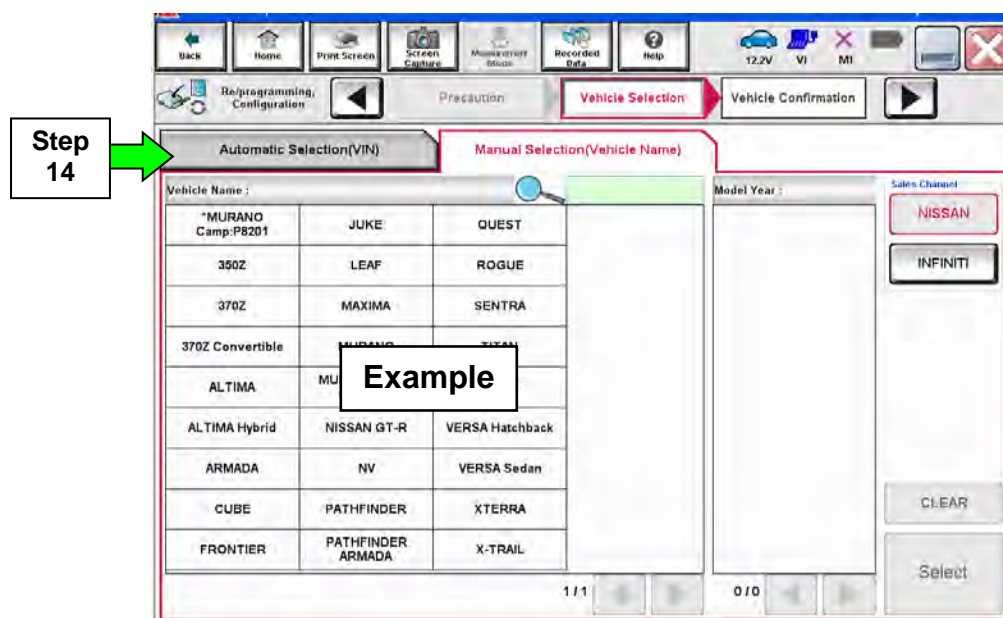

Figure 4
14. If the screen in Figure 4 displays, select **Automatic Selection(VIN)**.
- If the screen in Figure 4 does not display, skip to step 15.